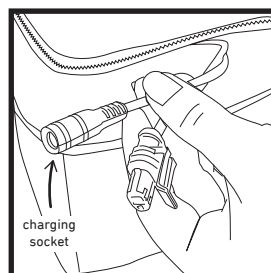

Fig. 8
2. The charging socket is located in the battery bag (Fig. 8).